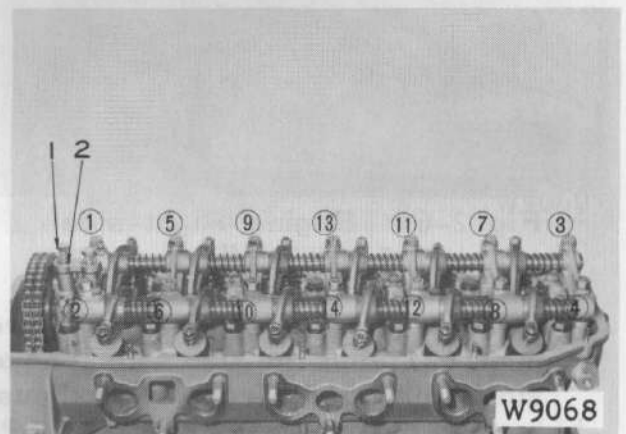

Fig. 2-12 Removing Rocker Shaft
24. Loosen and remove the valve rocker support retaining bolts and nuts in the order shown in figure 2-12. Do not loosen and remove the bolts and nuts at one time but perform the removal procedures in twice or three times.
25. Remove the chain tensioner (1).